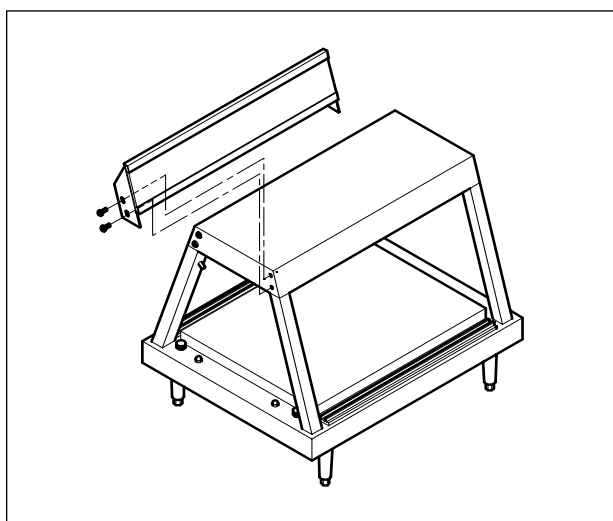

Figure 15. Display Sign Holder - GRHD Models Only
1. Remove screws from upper left and right side of unit as shown in Figure 15.